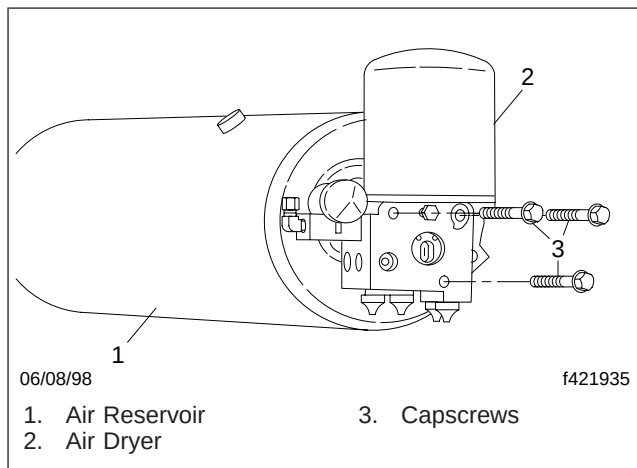

Fig. 1, DRM (air dryer capscrews shown)
5. Remove the three capscrews that fasten the air dryer to the air reservoir. See Fig. 1. Remove the air dryer.
10. Install the air dryer, making sure the two O-rings are installed between the air dryer and air reservoir. Use the three capscrews to fasten the air dryer to the reservoir. Tighten the capscrews 30 to 35 lbf·ft (41 to 47 N·m). See Fig. 1.